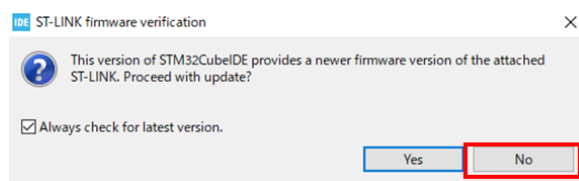

Fig. 6.27 Confirming ST-LINK firmware updates
- (c) When the ST-LINK firmware update shown in Fig. 6.27 appears, click "No".